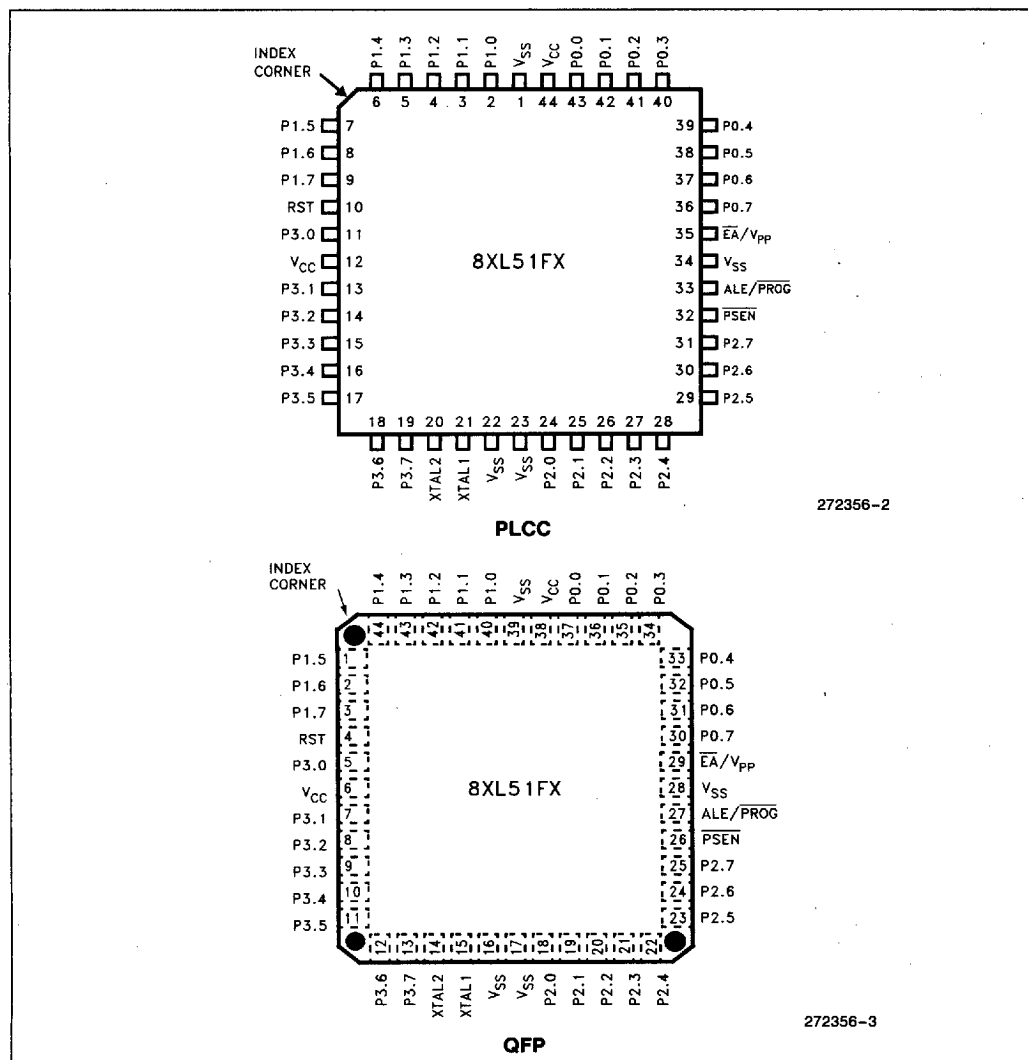

Figure 2. Pin Connections
- All V_{CC} and V_{SS} pins must be connected. Please refer to Figure 2, Pin Connections, for the specific pins.